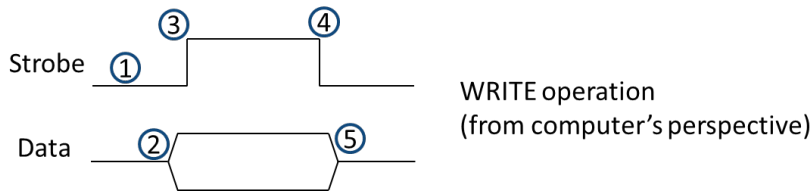
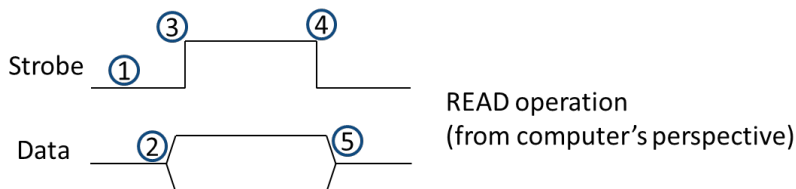

Figure 3. Write operation on the bus
Figure 4. Read operation on the bus
The steps (in Figure 3) involved in the write operation are as follows.
Figure 4 illustrates the five steps involved in a read operation from the computer (although the timing diagram has the same pattern as Figure 3, there are differences in the steps):
1. Design a user space application to directly access the parallel port and control the Strobe signals and data bus as described in Figures 3 and 4.
3. Design firmware for the PIC microcontroller on the sensor device to support the read and write operations as described in Figures 3 and 4.